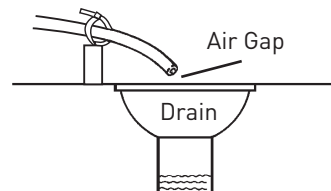

Figure 8 Drain Line Connection
**⚠ WARNING:** Never insert drain line directly into a drain, sewer line, or trap (Figure 8). Always allow an air gap between the drain line and the wastewater to prevent the possibility of sewage being back-siphoned into the conditioner.